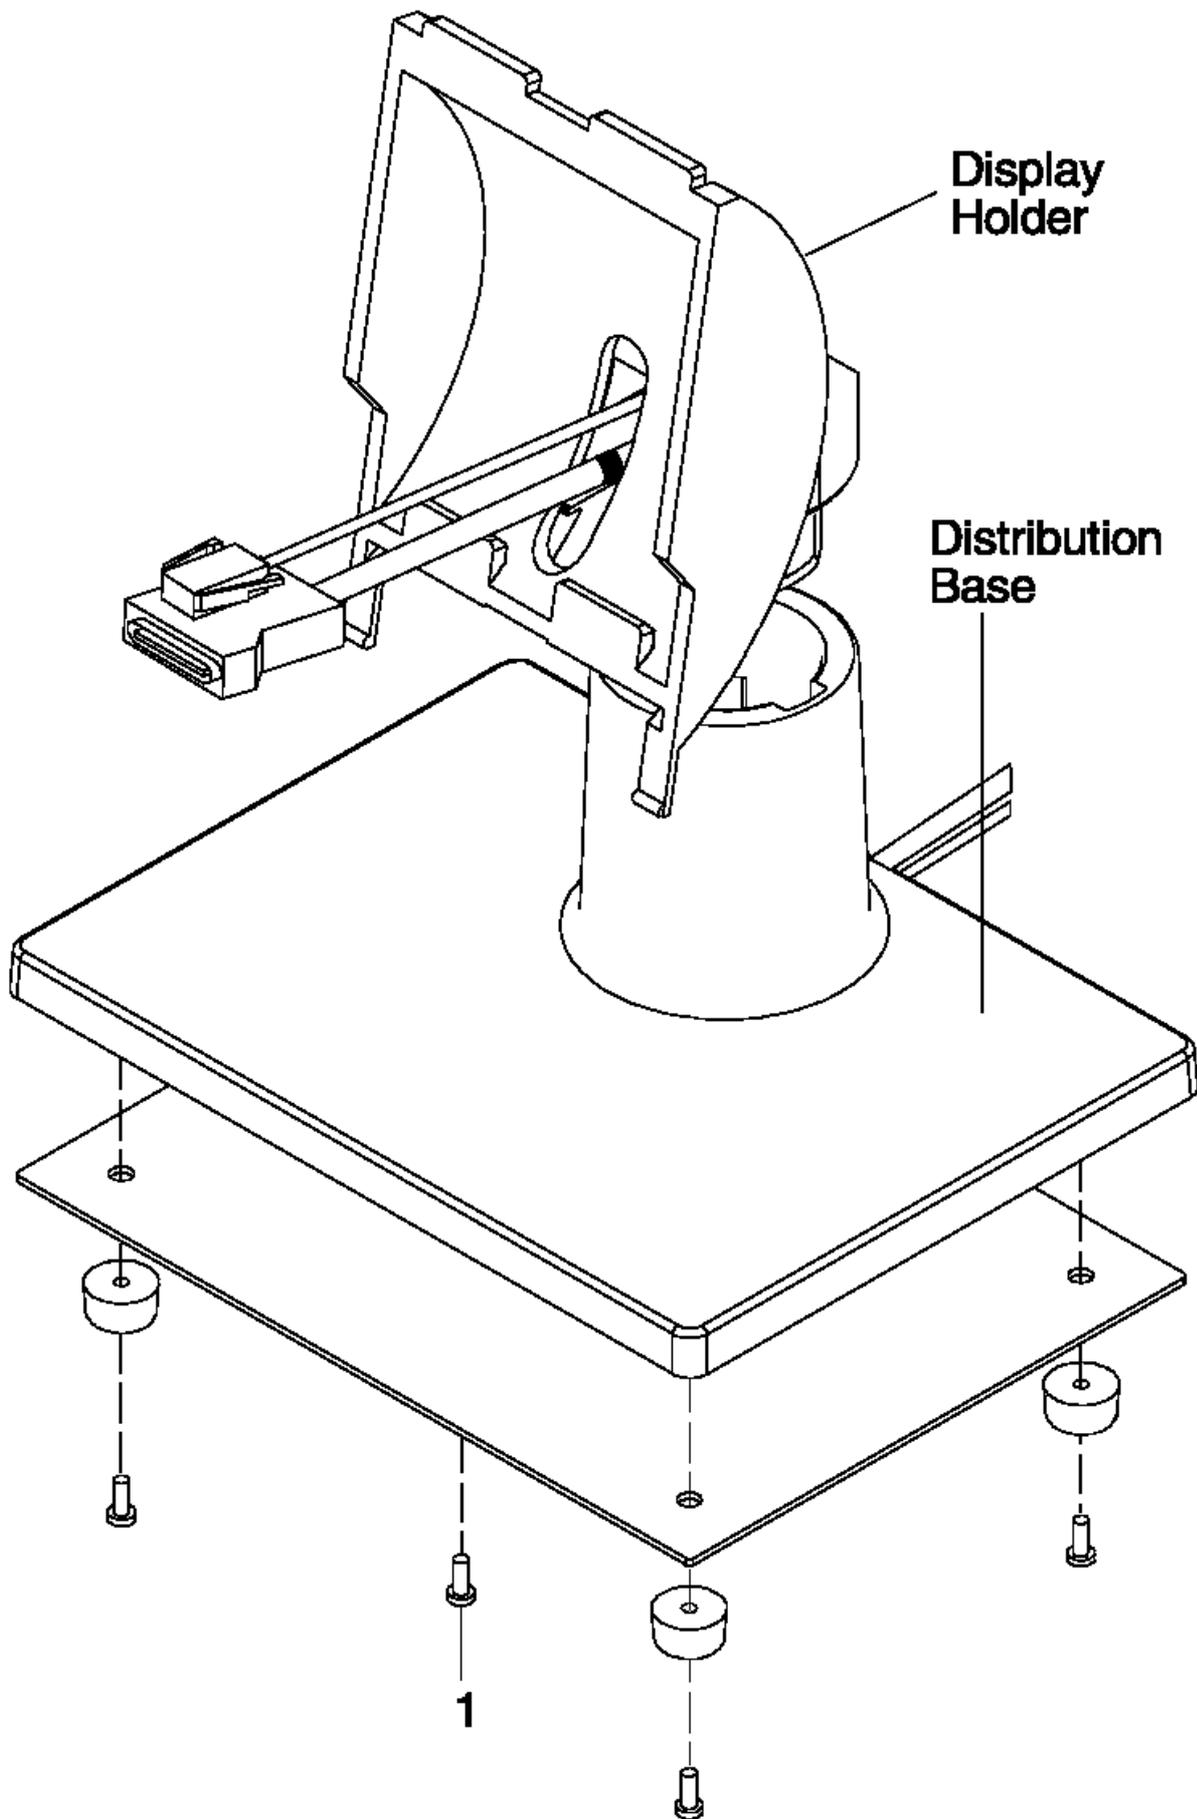

Figure 3-21. Distribution Base
2. Remove the distribution base from the checkstand by removing screw (1). See Figure 3-21.
3. Remove the touch display from the display holder. See Figure 3-21.
|    of the large cable. See Figure 3-21.